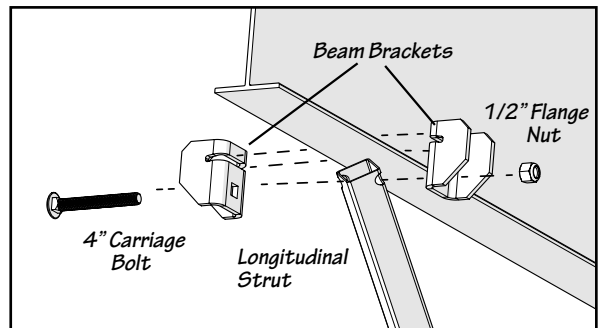

Fig. 3-3
- Raise the longitudinal strut upward and position it between the two beam brackets as shown right in Fig. 3-3.